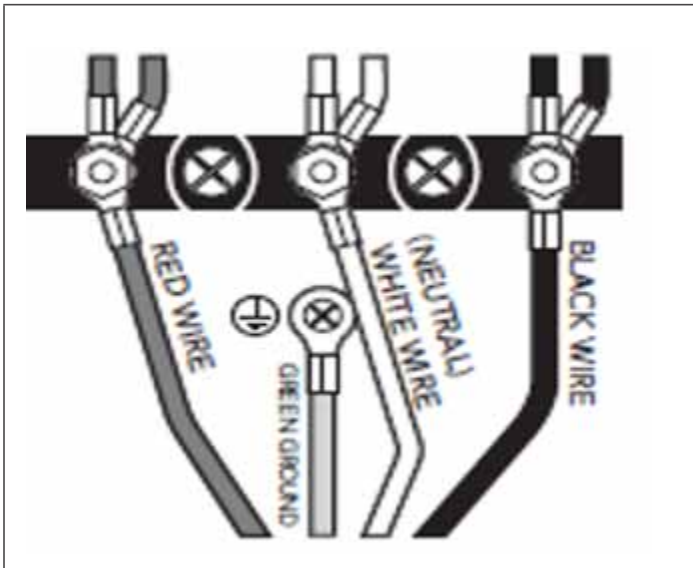

Figure 14: 4-Wire Connection
3. Secure the neutral, grounded wire of the supply circuit, to the center stud of the terminal block with nut (see Figure 14).